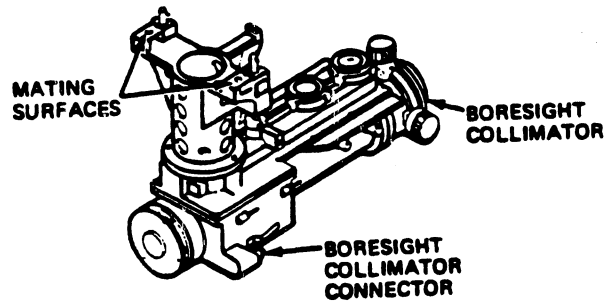

Fig 3-22. Boresight collimator
Step 4. Inspect and clean the mating surfaces of the night sight and boresight collimator (fig 3-22) if necessary, to make sure of proper mating for boresight accuracy.